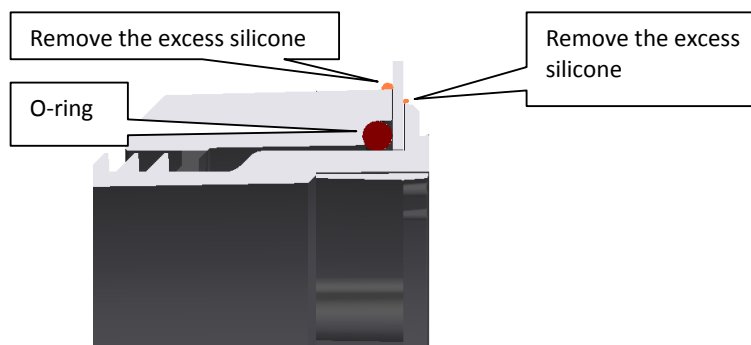

Fig. 16
12. Allow to cure (approx 12 – 15 hours) before fitting electrical conduit (Fig. 16)